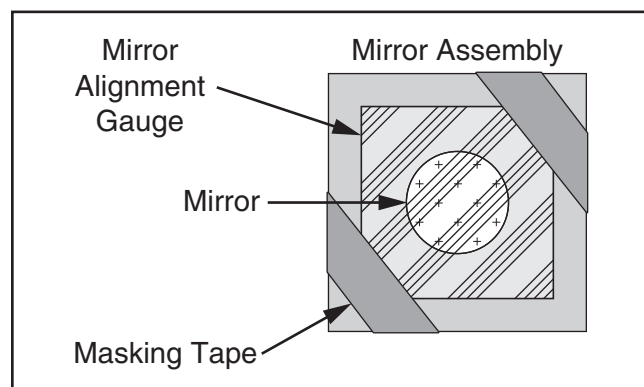

Figure 126. Mirror alignment gauge installed.
9. Place mirror alignment gauge in front of secondary Mirror #2 and hold in place with masking tape (see **Figure 126**).